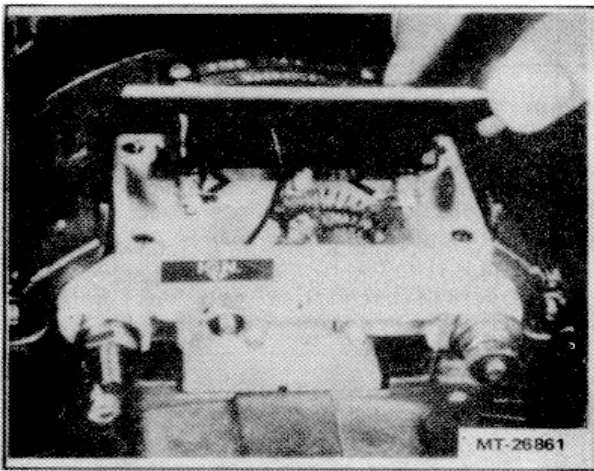

Figure 6 - Removing Regulator.
2. Remove four screws and carefully lift regulator free of housing. Remove red and black leads from regulator, noting their position to facilitate reassembly (See Figure 6).
3. Remove nuts and washers from "IGN." terminal. Loosen inner nut, which will allow blue regulator lead to be withdrawn from under head of terminal screw. Remove regulator (See Figure 6).